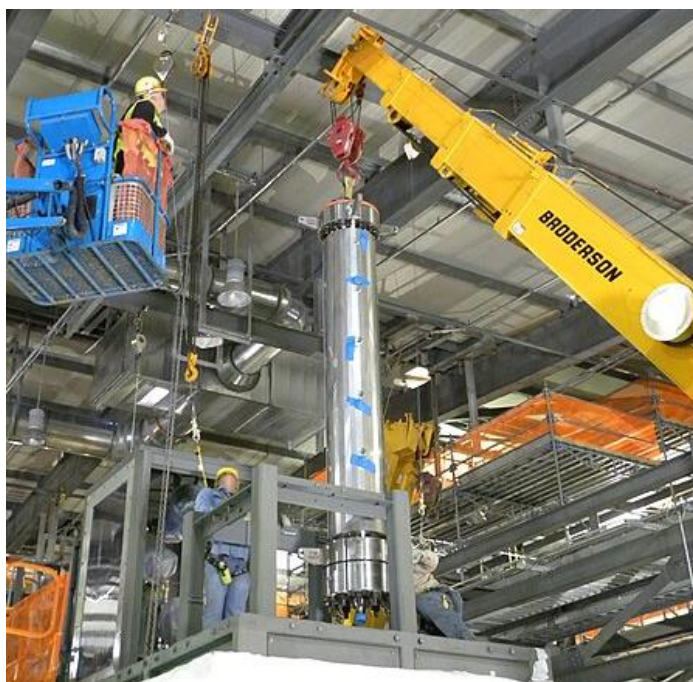

Figure 17: Supercritical water oxidation (SCWO) reactor being lowered into place.
- Supercritical water oxidation (SCWO) (see Figure 17)